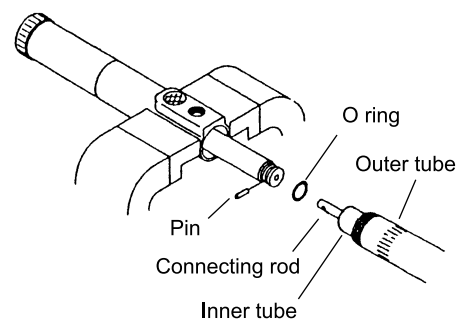

Fig. 8
- 5) Fix the pump body with a vise. (Fig. 8)
- 7) Remove an O ring from the plunger section, take out a pin, and pull out a connecting rod. (Fig. 8)